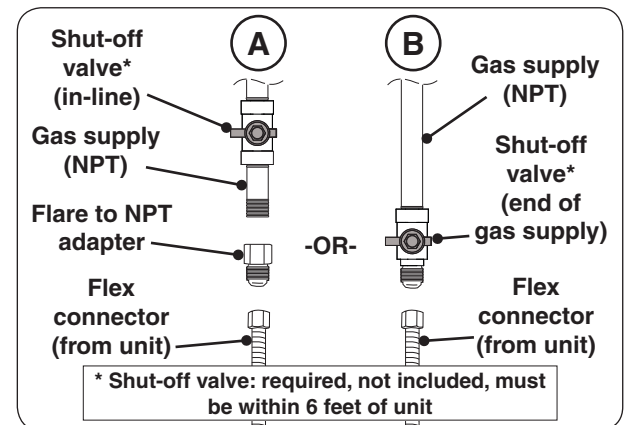

Fig. 19-3 Connecting to a gas line
- Install the supplied flare to NPT adapter to the gas supply (NPT) using a pipe joint compound resistant to all gasses (see Fig. 19-3, A). Tighten securely.
- Connect the flex connector to the flare to NPT adapter (see Fig. 19-3, A). Tighten securely.
- Connect the flex connector to the shut-off valve (see Fig. 19-3, B). Tighten securely.